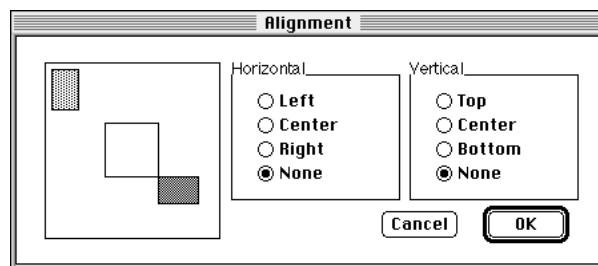

Figure 6-29 Alignment Window
5. A window similar to Figure 6-29 appears. When you first open the window, no alignment is selected. The diagram on the left side of the window indicates no alignment.